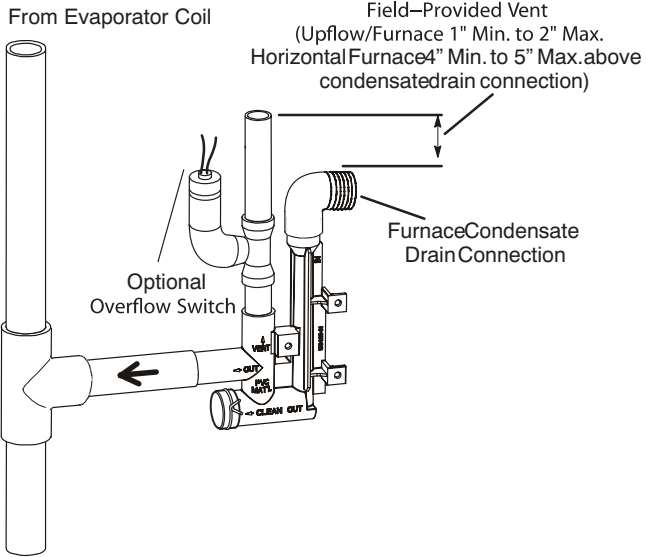
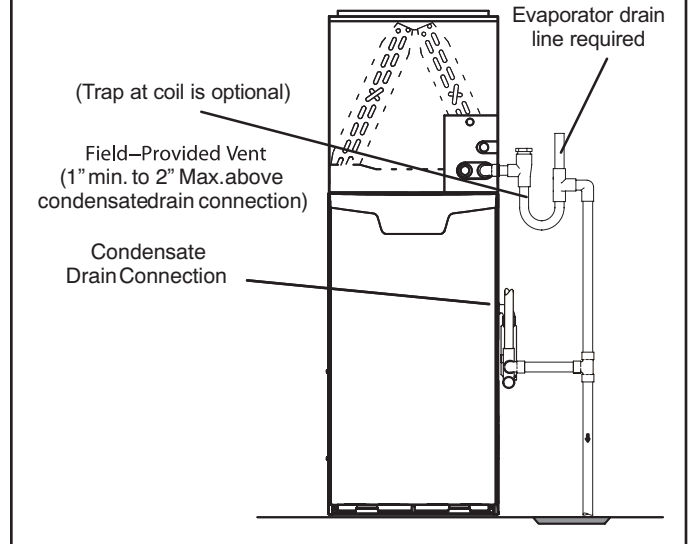

Figure 50
Figure 51
- 5 - Figure 48 and Figure 49 show the furnace and evaporator coil using a separate drain. If necessary the condensate line from the furnace and evaporator coil can drain together. See Figure 50, Figure 51 and Figure 52. **Upflow furnace** (Figure 51) - In upflow furnace applications the field provided vent must be a minimum 1" to a maximum 2" length above the condensate drain outlet connection. Any length above 2" may result in a flooded heat exchanger if the combined primary drain line were to become restricted. **Horizontal furnace** (Figure 52) - In horizontal furnace applications the field provided vent must be a minimum 4" to a maximum 5" length above the condensate drain outlet connection. Any length above 5" may result in a flooded heat exchanger if the combined primary drain line were to become restricted.